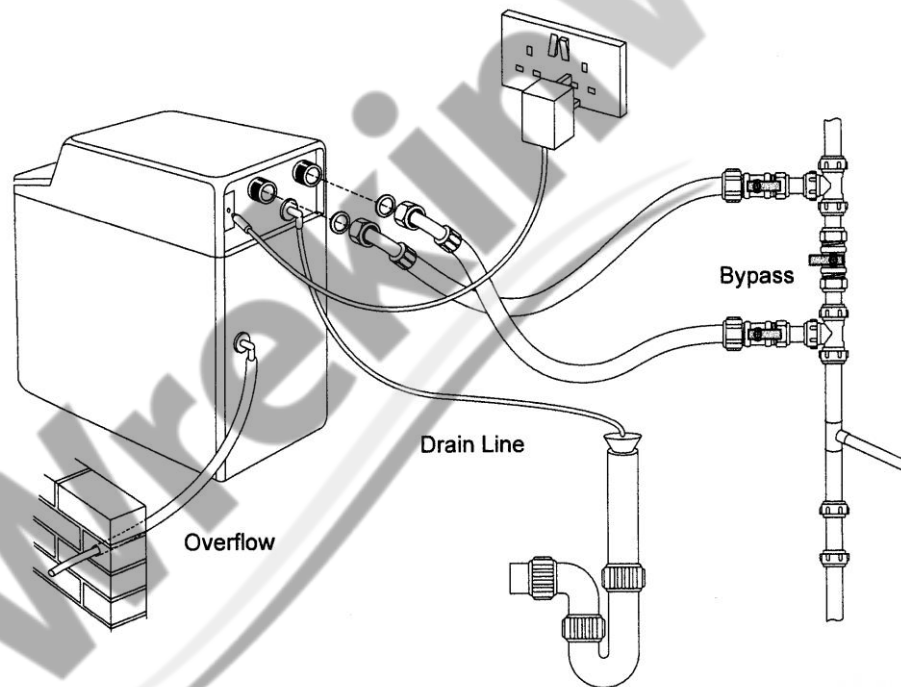

Figure 3: Typical Installation
- A bypass loop should be installed on all softeners. The bypass valve isolates the Water Softener from the water system and provides un-softened water to the water system during routine maintenance and servicing procedures. See figure 3..